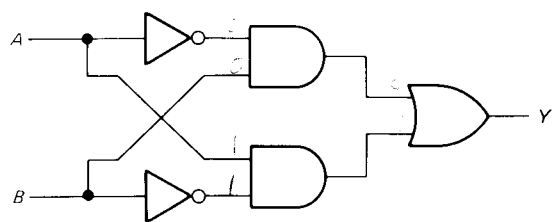

Fig. 2-23
- 2-20.** If both inputs are high in Fig. 2-23, what is the output? What is the boolean equation for the circuit? Describe the truth table.
- If both inputs are false in Fig. 2-23, what is the output?
- What is the output in Fig. 2-23 if one input is false and the other true?
- In Fig. 2-23 what is the output if all inputs are true?